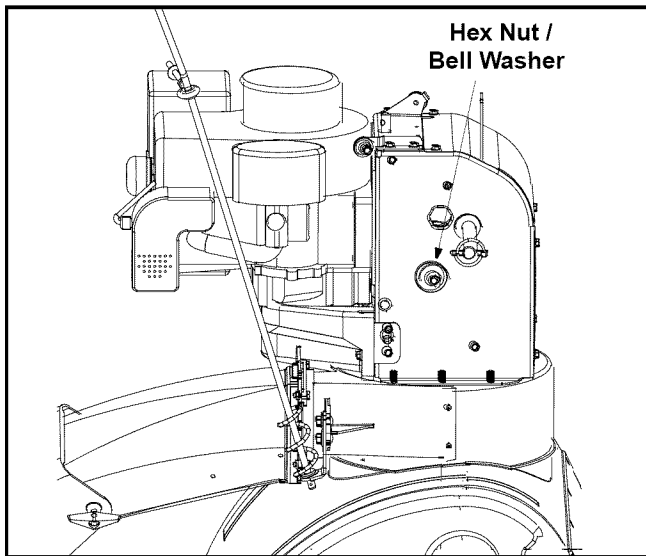

Figure 19
- Using a 7/8" wrench to hold the shaft, loosen, but do not completely remove, the hex nut and bell washer on the left end of gear shaft. See Figure 19.